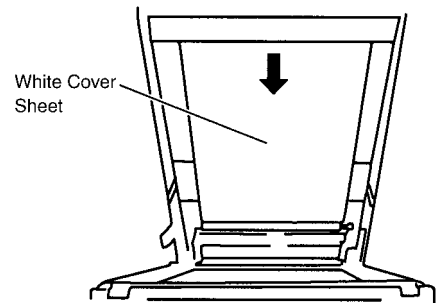

Fig. 4-8
- 1) Peel off White Cover Sheet, as shown in Fig. 4-8.